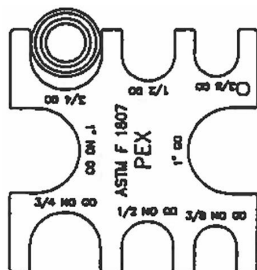
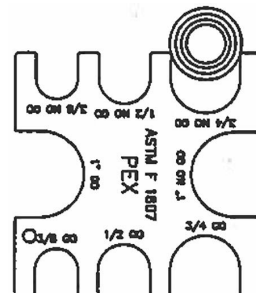

Figure 6
Figure 7
- Gage all crimps using the gage provided to assure that they conform to the ASTM F-1807 specification. Check crimp in the Go side (fig. 6) to make sure it enters. Then check it in the No Go side (fig. 7) to make sure it does not enter.